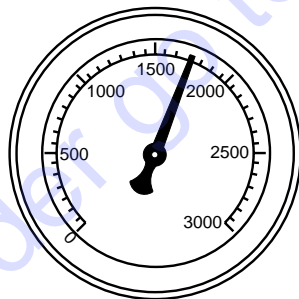

Figure 31. Accumulator Pressure Gauge
6. The **accumulator pressure gauge** (Figure 31) should read approximately 1750 pounds per square inch (psi).